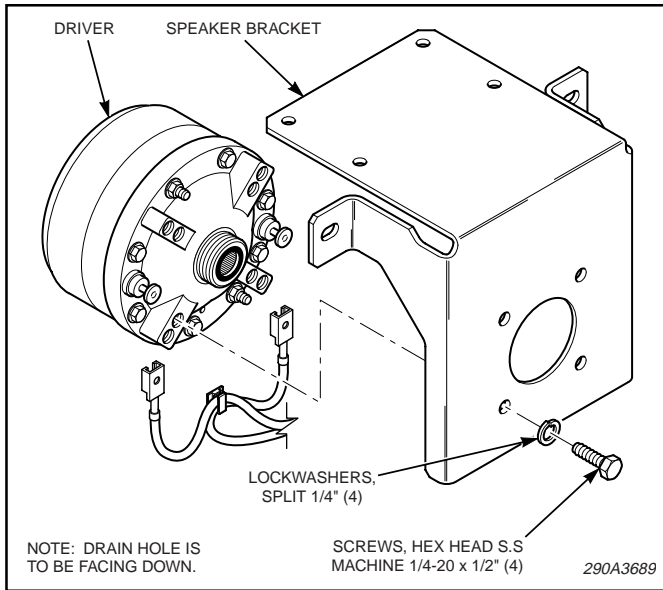

Figure 2.
4. See figure 2. Assemble the bracket to the speaker driver using the 1/4-20 x 1/2" bolts and 1/4" lockwasher and tighten the bolts securely.